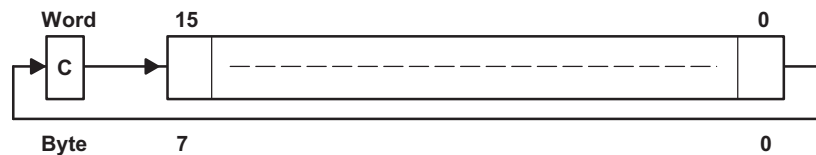

Figure 3-17. Destination Operand—Carry Right Shift
Description The destination operand is shifted right one position as shown in Figure 3-17. The carry bit (C) is shifted into the MSB, the LSB is shifted into the carry bit (C).